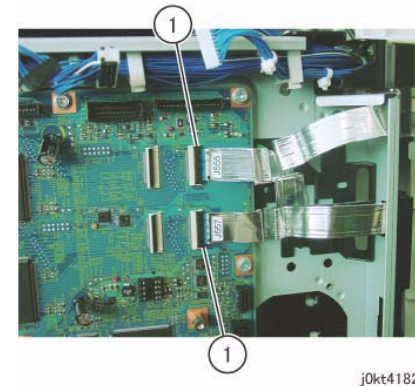

Figure 3 Disconnect the Flexible Print Cables
10. Disconnect the Flexible Print Cables (x2). (Figure 3)